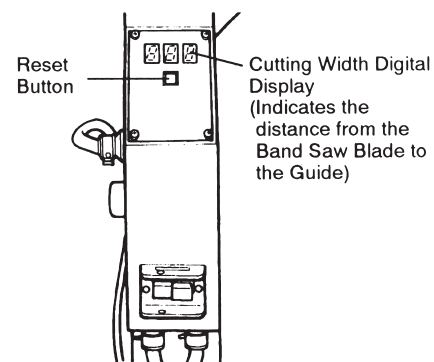

Fig. 16
- Push the reset button under the digital display unit to bring the display reading to 0 . (See Fig. 16)